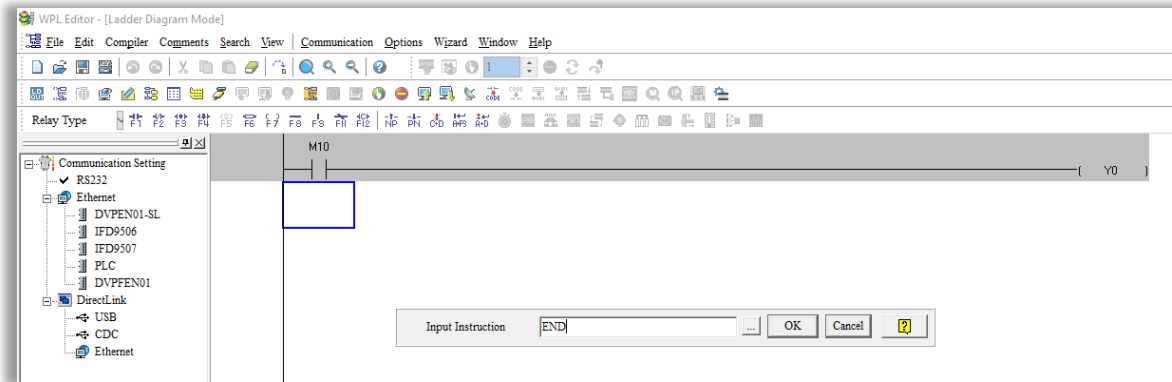
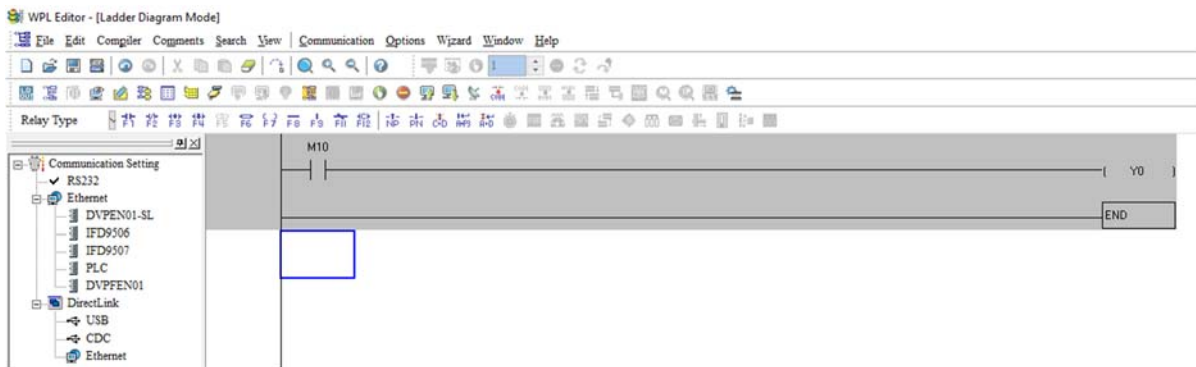

Figure 17-23
Figure 17-24
- Press Enter, and **Input Instruction** box appears. In the **Input Instruction** box, select **END**, or use the keyboard to type “END”, and then click **OK**, as shown in Figure 17-23 and Figure 17-24.